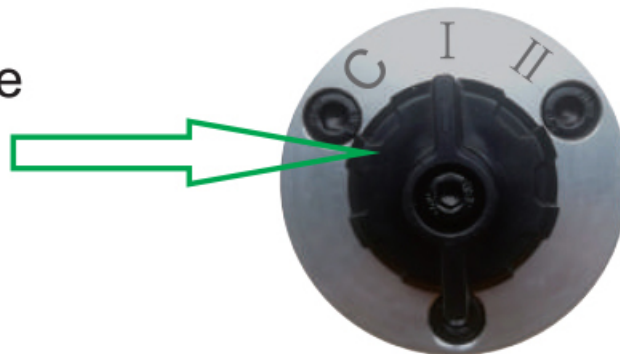

Fig.5 Gas ballast valve knob
In the presence of permanent gases, the gas ballast valve knob(5/Fig.1) should be switched off (as Fig.5 gas ballast valve knob arrow C below). It may cause the rise of ultimate pressure (decrease of ultimate pressure) if open the gas ballast valve(5/Fig.1)
- When the vacuum system contains a small amount of condensable gas, open the gas ballast valve (refer to Fig.5 gas ballast valve arrow I or II), it can pump a small amount of condensable gas effectively. Close the gas ballast valve when the vacuum system pressure reduced to a certain value.